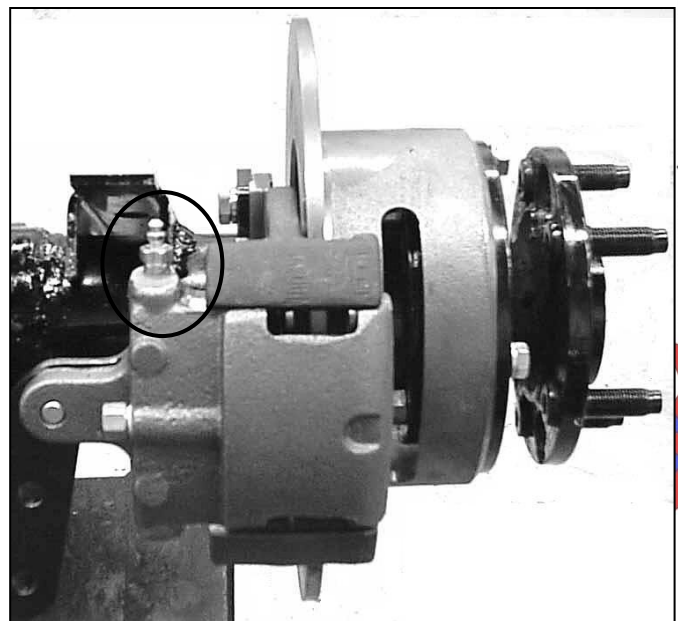

Figure 5-3
3. Open bleeder valve (Figure 5-3) by rotating it counterclockwise about 1/2 turn. With master cylinder full of fluid at all times, slowly depress the brake pedal repeatedly until fluid flows from bleeder valve free of air bubbles.